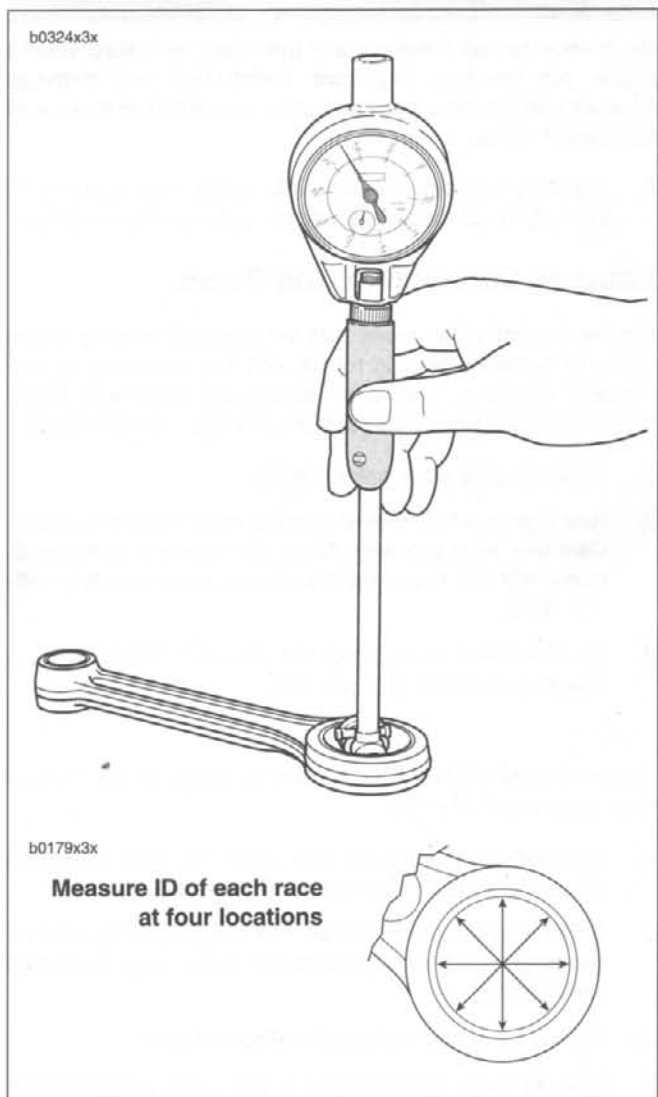

Figure 3-103. Measuring Connecting Rod Race Inside Diameter
1. See Figure 3-103. Measure inside diameter (ID) of lapped connecting rod races. Use a dial bore gauge that has 0.0001 in. (0.0025 mm) graduations.